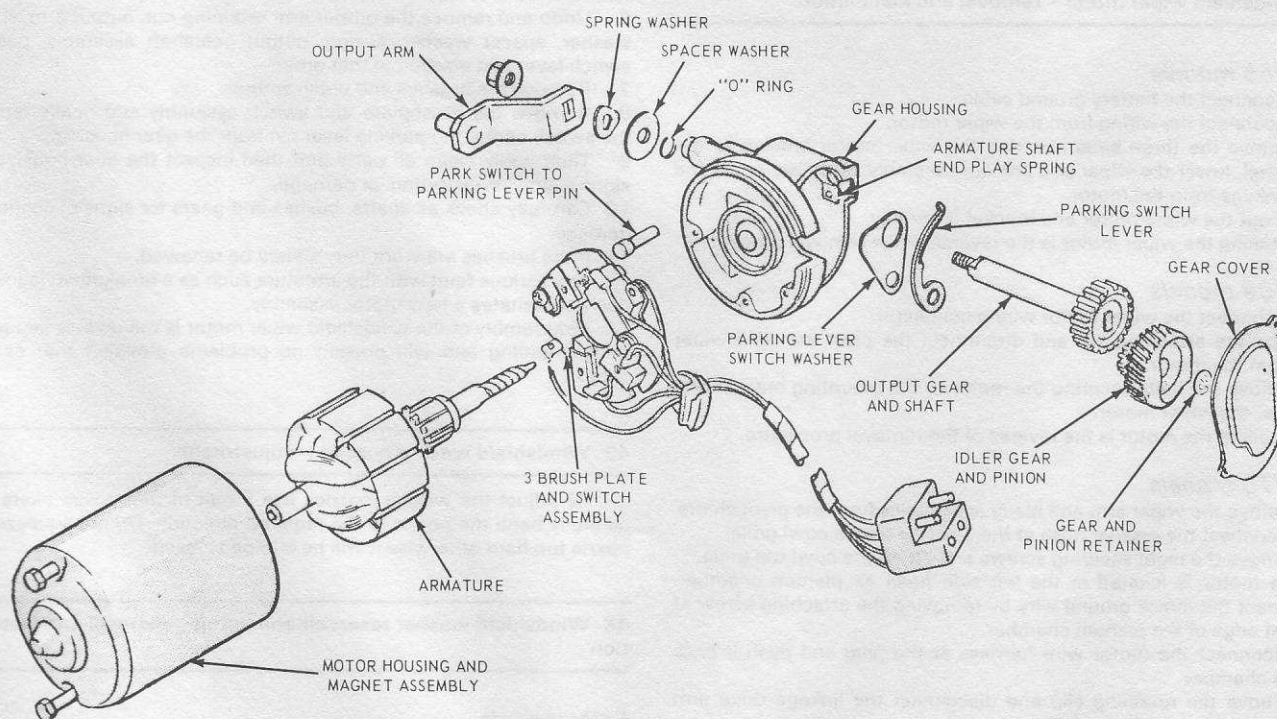

Fig. 10.27 Exploded view of windshield wiper motor (Sec. 44)
- 1 Undo the securing screws and remove the ground terminal and cover (Fig. 10.27).